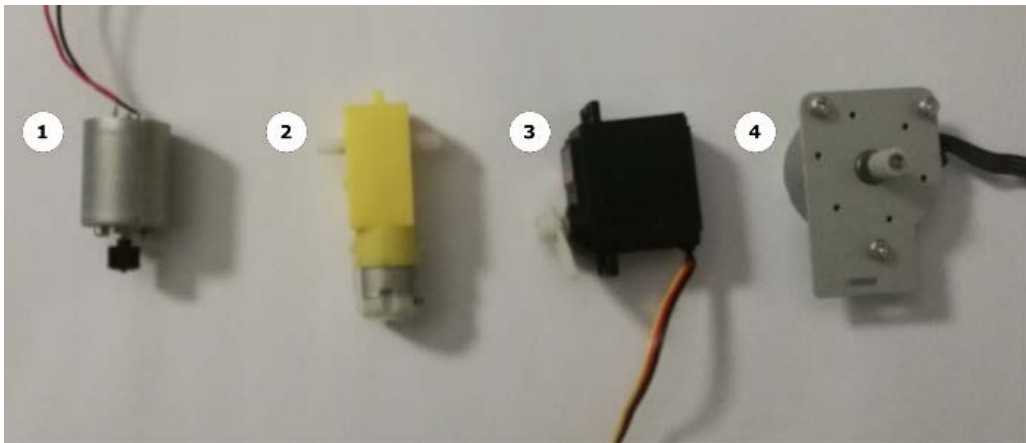

Figure 2.4 – Different motor types – a DC motor, DC gear motor, servo motor, and stepper motor
1. **DC motor:** This is the most simple type of motor in robotics and forms the basis of gear motors. It uses **Direct Current (DC)** voltage, which means it can be driven simply by voltage running one way through it. The motor speed is in proportion to the voltage running through it versus the torque required to move. A bare DC motor like the one in *Figure 2.4* can spin too fast to be useful. It will not have much torque and stall easily.